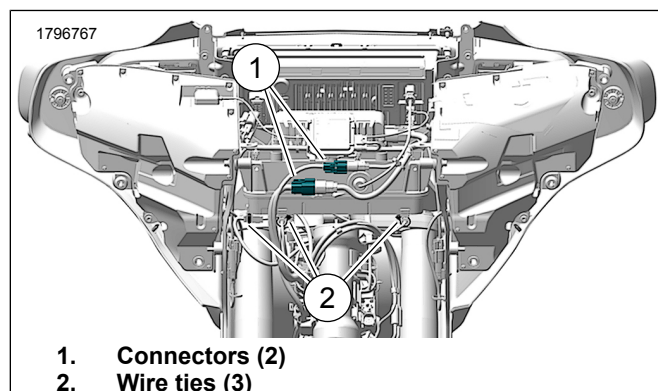
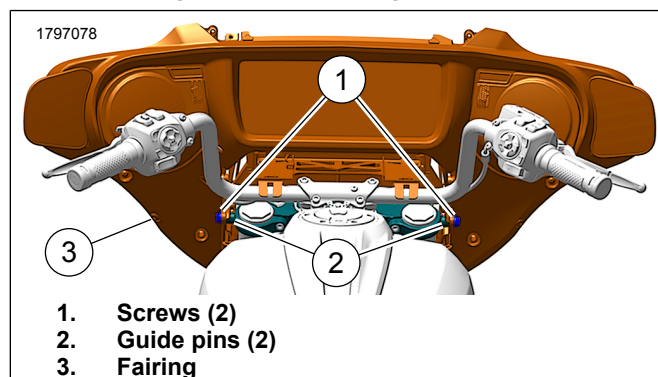

Figure 2. Inner Fairing Fasteners
Figure 3. Fairing Fasteners
- a. See Figure 2. Disconnect harness connectors (1).
- b. Remove wire ties (2).
- c. See Figure 3. Remove screws (1).
- d. Remove fairing (3).
- a. See Figure 3. Install fairing (3).
- b. Install screws (1).
- c. See Figure 2. Install wire ties (2).
- d. Connect harness connectors (1).